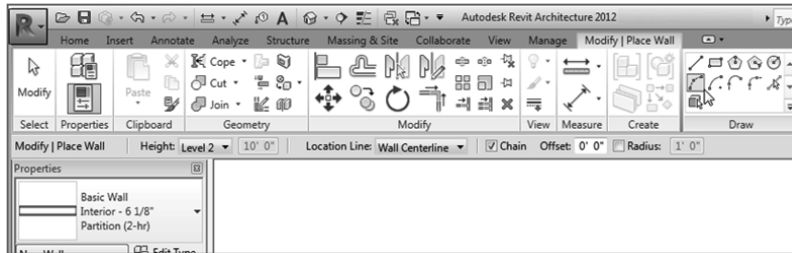

FIGURE 2.32: Choosing options should be old hat by now! The Start-End-Radius Arc button is at the upper right on the Ribbon.
- On the Draw panel, click the Start-End-Radius Arc button (upper right in Figure 2.32).